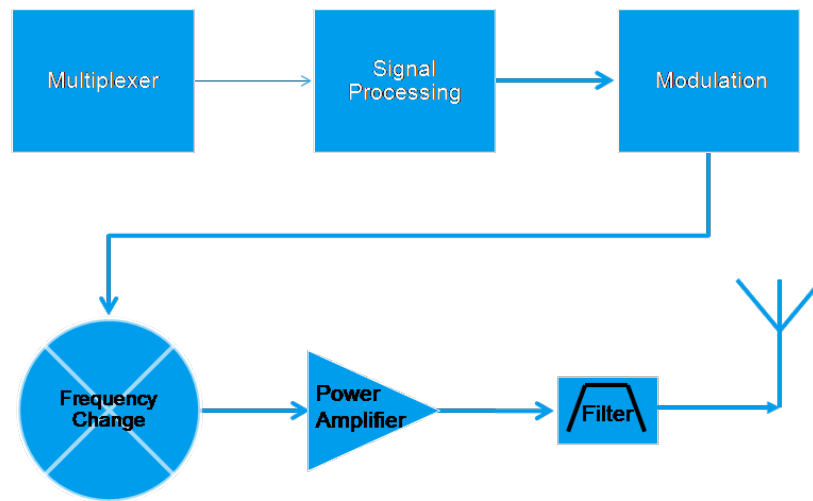

Figure 12: Simplified transmitter block diagram.
Figure 12 shows a high-level view of the key components that make up the transmit side of a communication system. First the multiplexer is used to route the desired information into the transmit path. To condition the signal for transmission we add signal processing. Next, the signal is modulated into whatever modulation scheme the application requires. This may have been Amplitude Modulation (AM) or Frequency Modulation (FM), but today there are a wide range of digital modulation schemes with many based on Orthogonal Frequency-Division Multiplexing (OFDM) techniques.